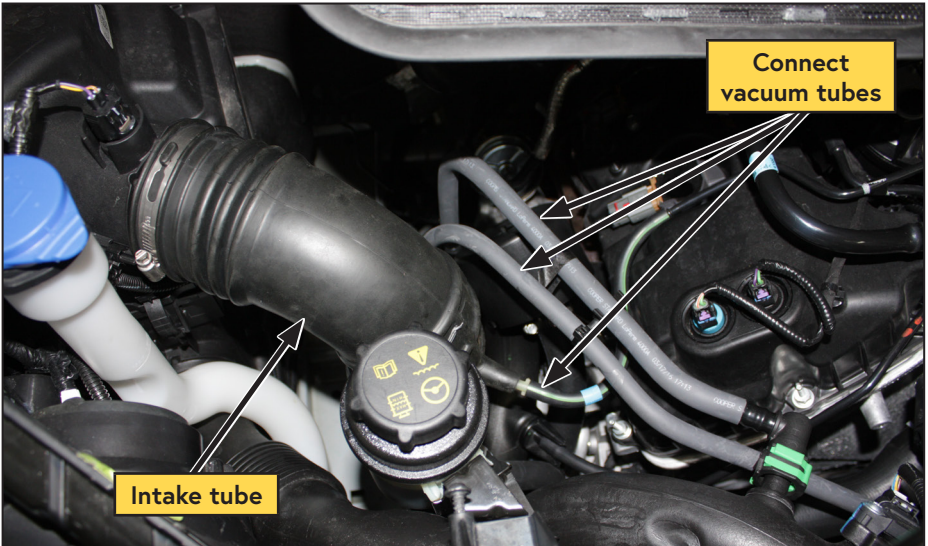

Figure 86 — Install intake tube
- Reinstall the 2 vacuum tubes to the engine air filter intake tube, ensure the red and green clips are fastened securely (Figure 86).
- Reattach the vacuum tube to the intake elbow (Figure 86).